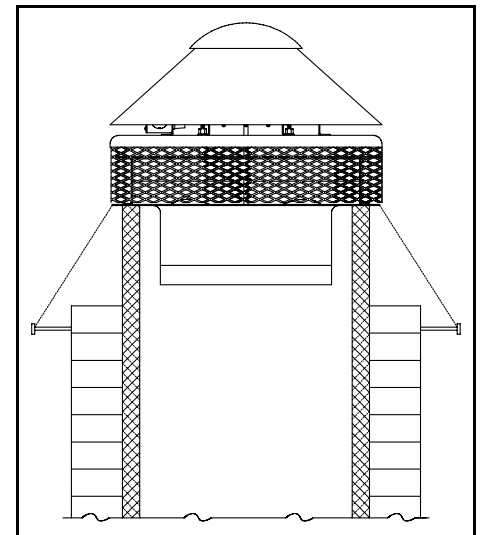

Figure 2
3. Install the draft inducer on top of the chimney with the unit resting on the base plate. Make sure the unit is sealed. Fasten the inducer to the chimney using anchor bolts and securing wires or cables. (See Figure 2)